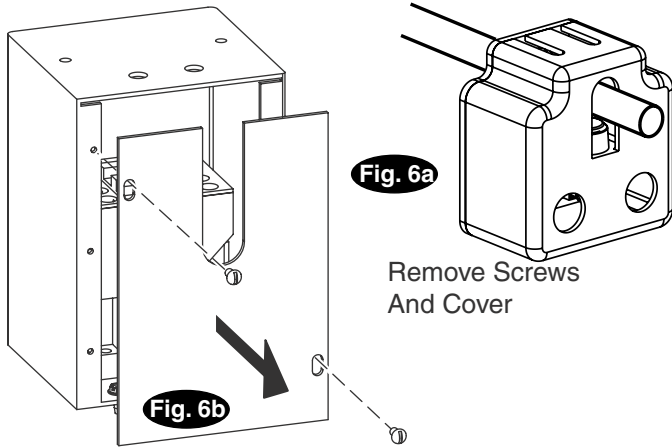

Fig. 6a
For single phase lifts: Insert 1/4"-20NC x 2-3/4" HHCS through pivot hole in end of switch bar. Insert opposite end of bar through slot in switch mounting bracket. Then secure HHCS and Switch Bar to overhead as shown, Fig. 6a, using (2) 3/4" spacers and 1/4"-20NC Locknut. Tighten Hex bolt leaving 1/16" gap between the spacer and the overhead assembly.